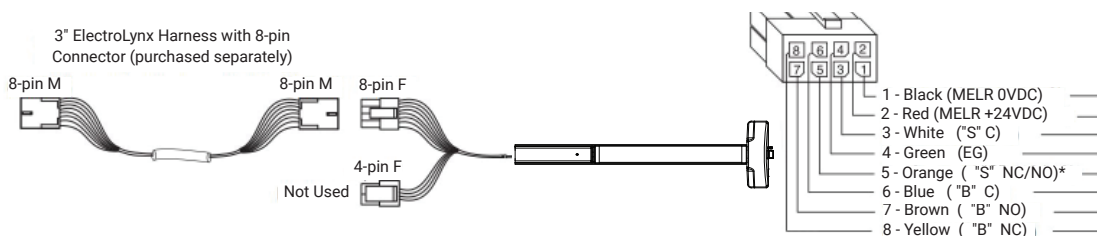

Figure 8 - Typical ElectroLynx Power Mode Wiring
2. Connect the ElectroLynx harness in the door. See Figure 8.